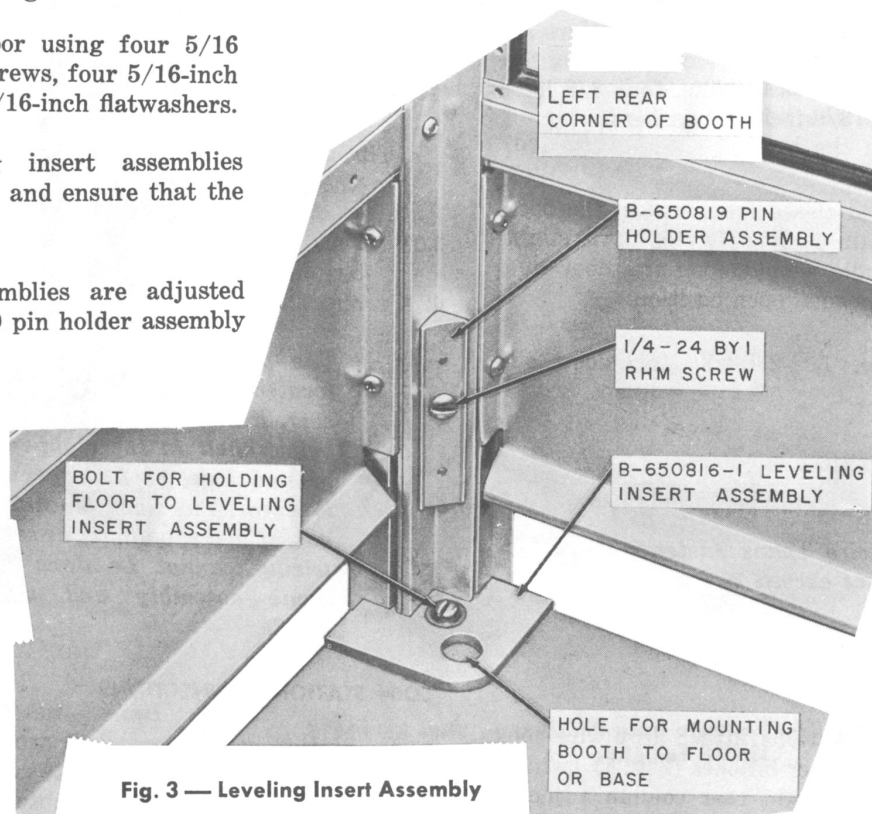

Fig. 3 — Leveling Insert Assembly
- (a) If a KS-19425, List 10 foundation template is used, remove insert plugs from template and secure leveling insert assemblies (Fig. 3) of booth to template using four 3/8-16 by 1-1/4 hex head bolts, four 3/8 lockwashers and four 3/8-inch flatwashers.
- (1) Mark the location for four mounting holes.
- (2) Drill four lead holes to accommodate 5/16 by 2-1/2 inch lag screws.
- (3) Secure booth to floor using four 5/16 by 2-1/2 inch lag screws, four 5/16-inch lockwashers, and four 5/16-inch flatwashers.
- (d) Adjust the leveling insert assemblies (Fig. 3) if necessary, and ensure that the booth is level.